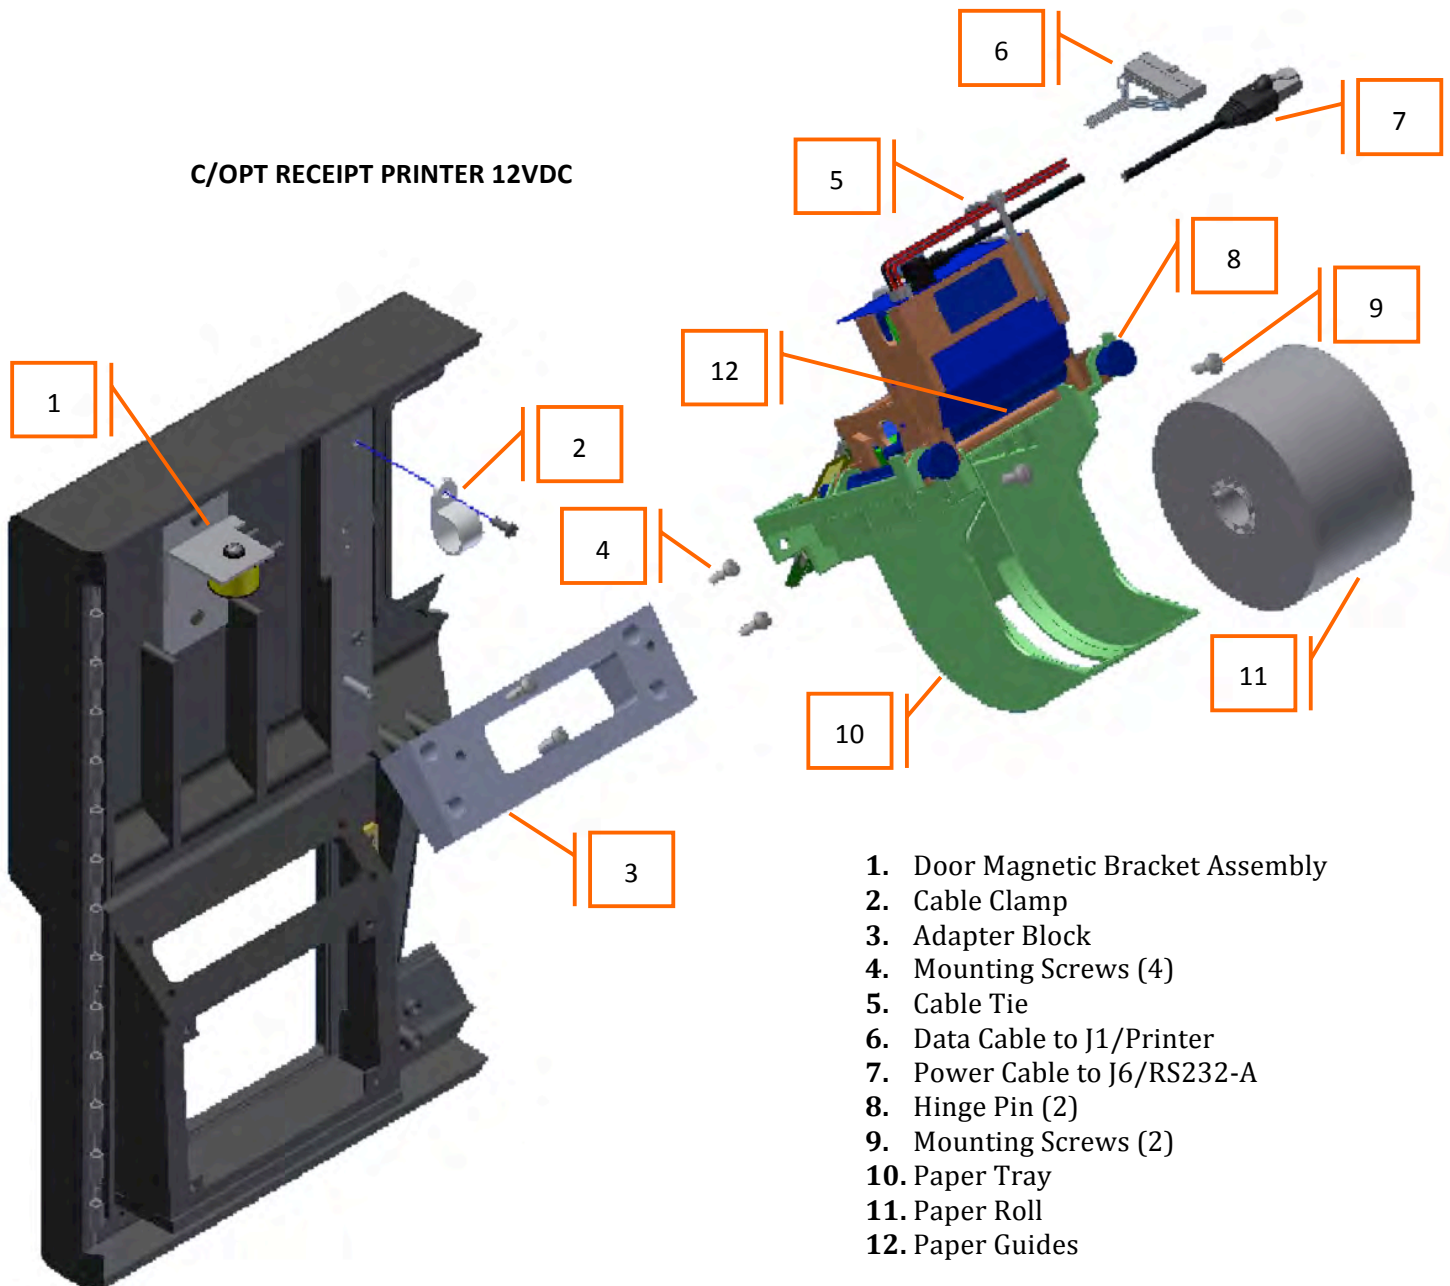

Figure 6: C/OPT Receipt Printer Assembly
Step 1. Position the adapter block on to the printer mounting area as seen in Figure 6.
Note: Observe correct adapter block orientation by referring to Figure 6.